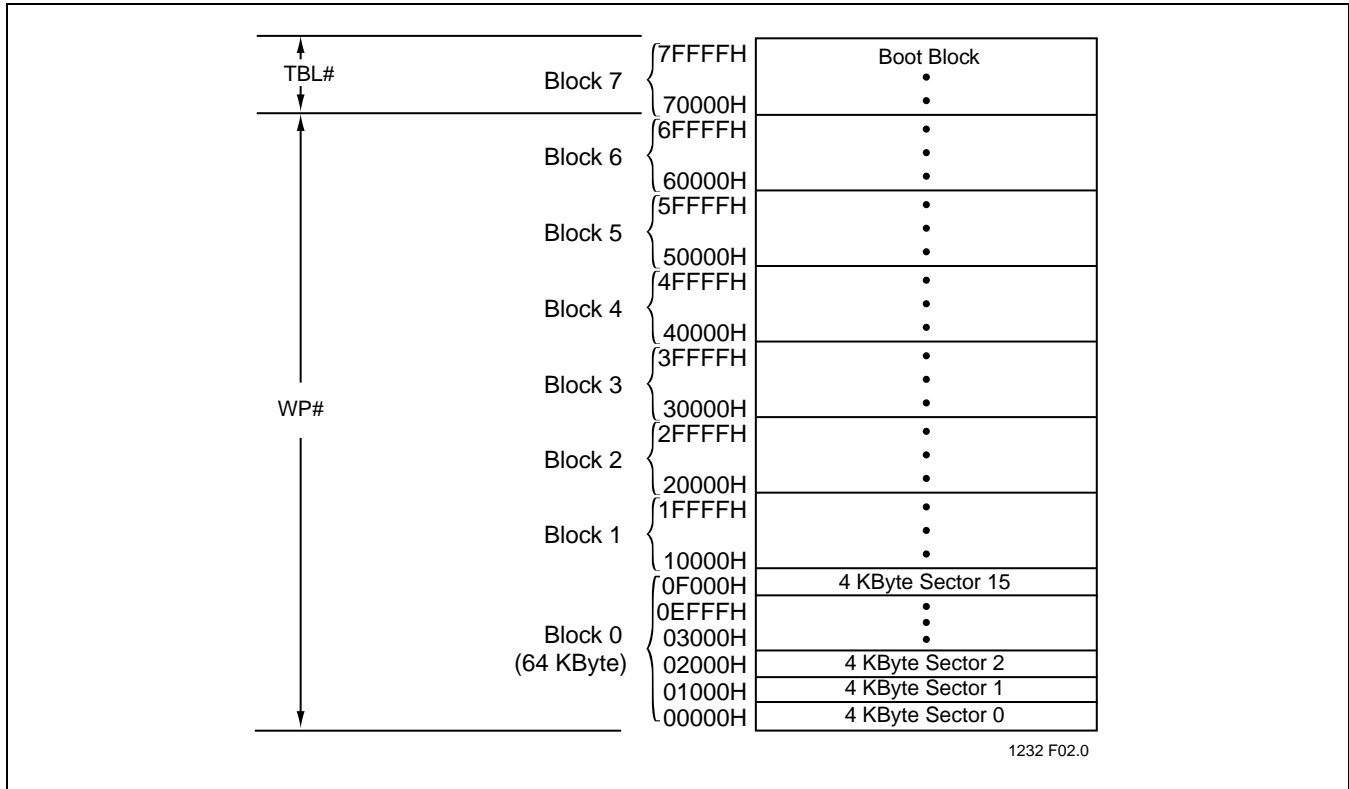

FIGURE 3: DEVICE MEMORY MAP
The SST49LF004B flash memory device operates in two distinct interface modes: the LPC mode and the Parallel Programming (PP) mode. In LPC mode, communication between the Host and the SST49LF004B occurs via the 4-bit I/O communication signals, LAD[3:0], and LFRAME#. In PP mode, the device is controlled via the 11 addresses, A₁₀-A₀, and 8 I/O, DQ₇-DQ₀, signals. The address inputs are multiplexed in row and column selected by control signal R/C# pin. The row addresses are mapped to the lower internal addresses (A₁₀₋₀), and the column addresses are mapped to the higher internal addresses (A₁₈₋₁₁). See Figure 3, Device Memory Map, for address assignments.